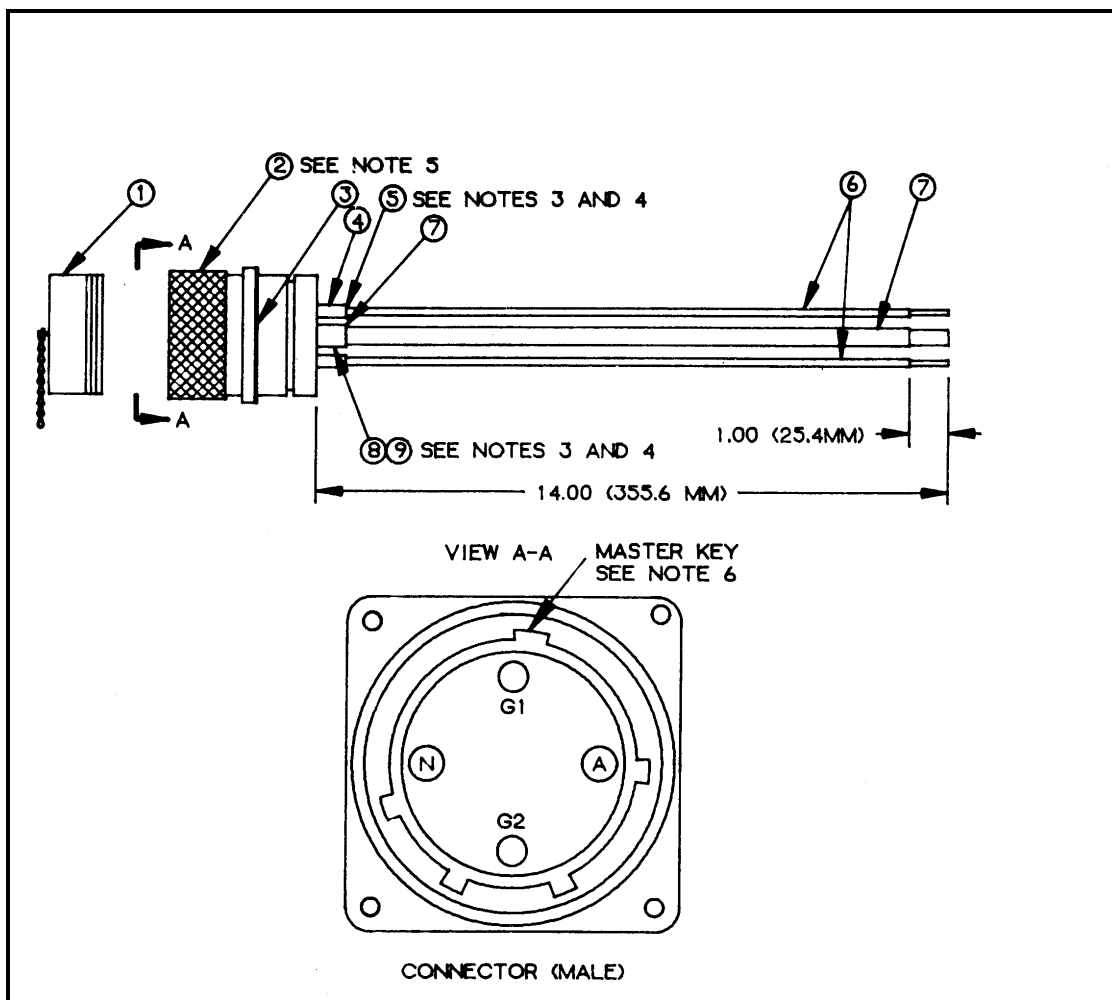

Figure F-10. M60, 60-Amp, Input Connector, (J1).
F-10 M60, 60-Amp, Input Connector, (J1)**Component Legend for Figure F-10**
- c. Electrical connector (Figure F-10, Item 2) is furnished with the following: